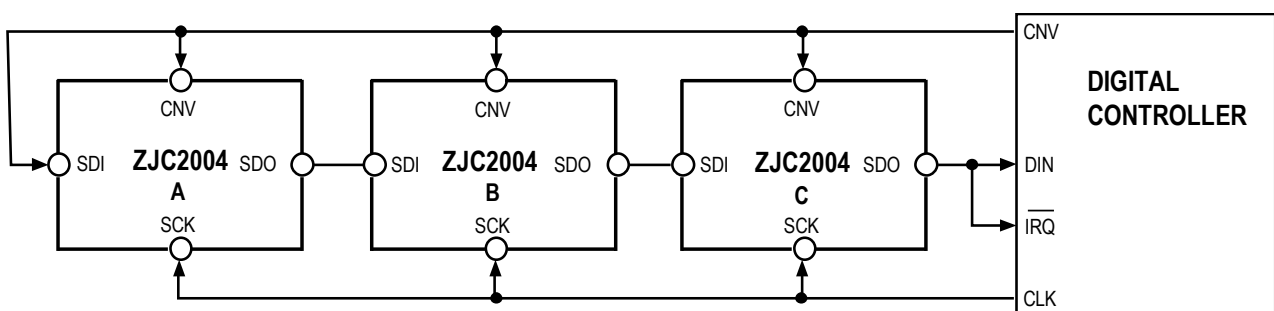
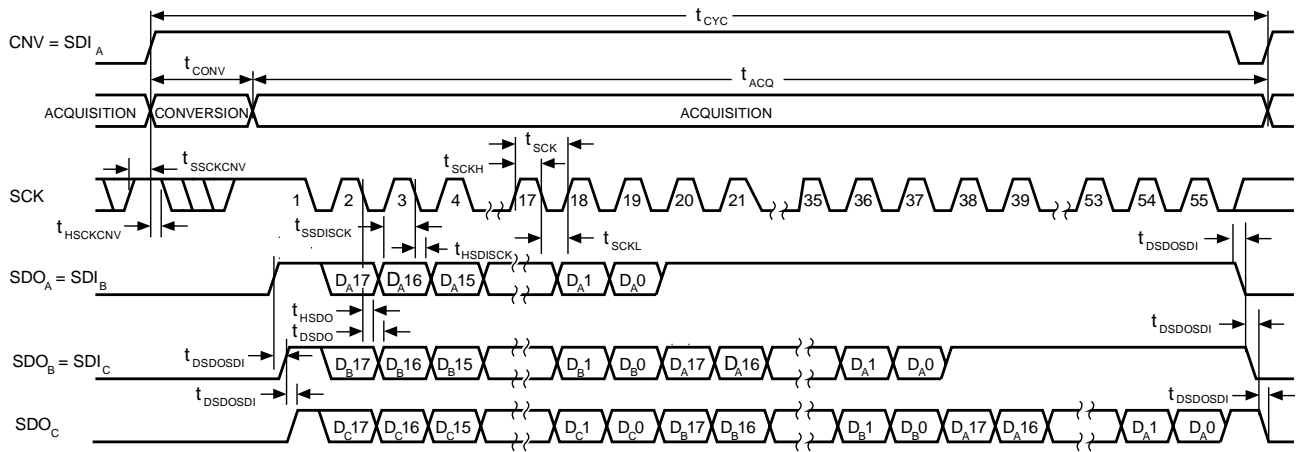

Figure 46. Chain Mode (with Busy Indication) Connection Diagram
Figure 47. Chain Mode (with Busy Indication) Serial Interface Timing
- In chain mode, SCK is high during the rising edge of CNV (see Figure 47).
An example using three ZJC2004s is shown in Figure 46, and the corresponding timing is shown in Figure 47.
When SDI and CNV are low, SDO goes low. With SCK high, a rising edge on CNV initiates a conversion, selects chain mode, and enables the busy indicator feature. In this mode, CNV remains high during the conversion phase and subsequent data readback. After all the ADCs in the chain have completed their conversions, drive the SDO pin of the ADC closest to the digital host (see Figure 46). This transition on SDO can be used as a busy indicator to trigger data readback. ZJC2004 then enters the acquisition phase and is on stand-by. The remaining data bits stored in the internal shift register are clocked out MSB first on subsequent SCK falling edges. For each ADC, SDI feeds the input of the internal shift register and is clocked out by SCK falling edge. Each ADC in the chain outputs data MSB first, and  $18 \times N + 1$  clocks are required to read back N ADCs.